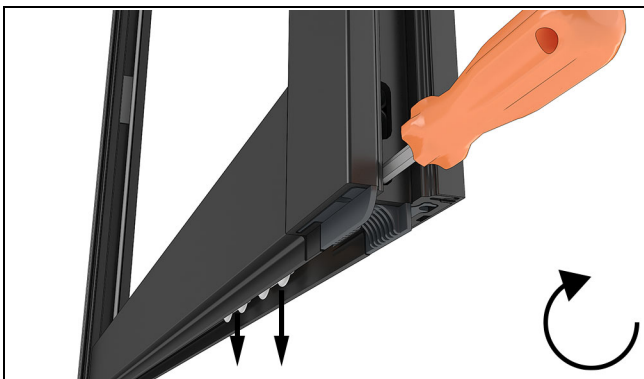
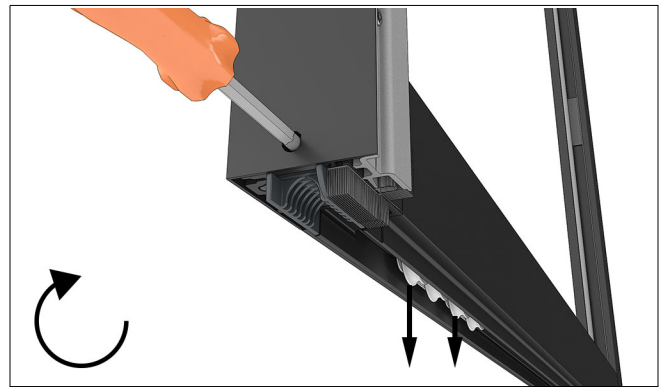

Figure 91
Figure 92
5. Insert a 5mm hex wrench into the adjustment hole(s) and raise or lower the rollers accordingly. Rotate the adjustment screw clockwise to raise the panels. See Figure 91 and Figure 92.